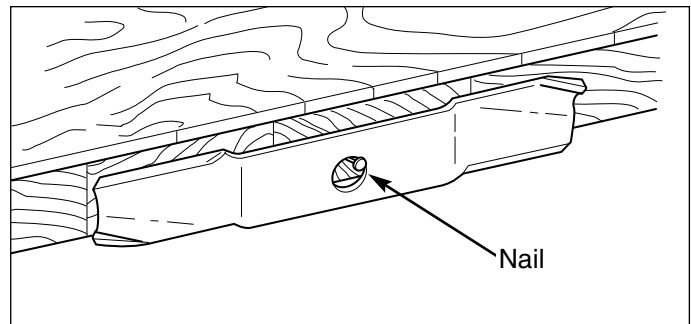

Figure 7. Balancing The Blade
- Balance the blade as shown in Figure 7. Center the blade's hole on a nail lubricated with a drop of oil. A balanced blade will remain level.